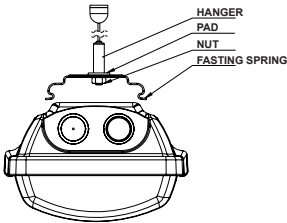

Fig. 5
- e) using wall fasteners – not included in the fittings (Fig. 5)